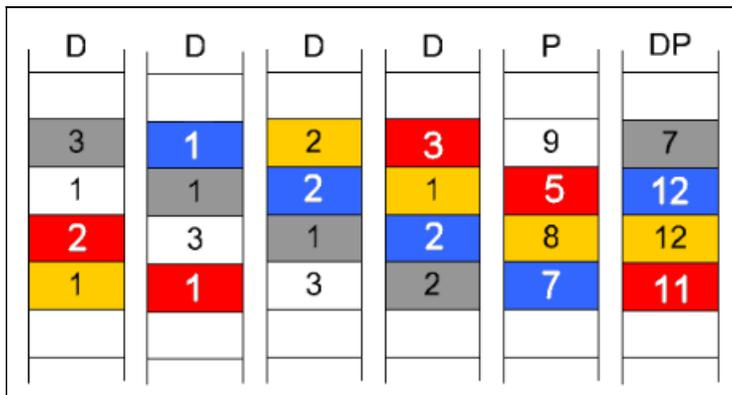
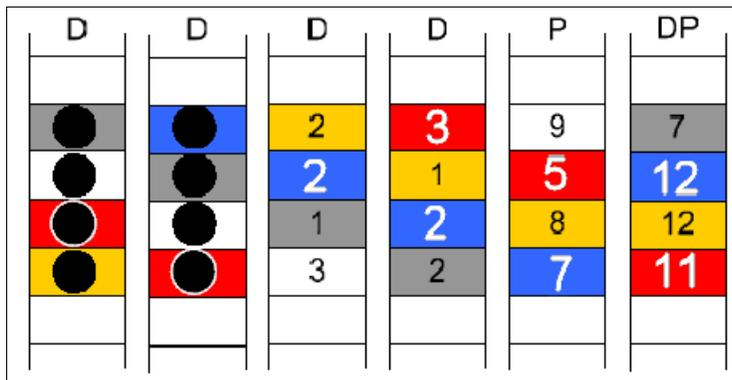
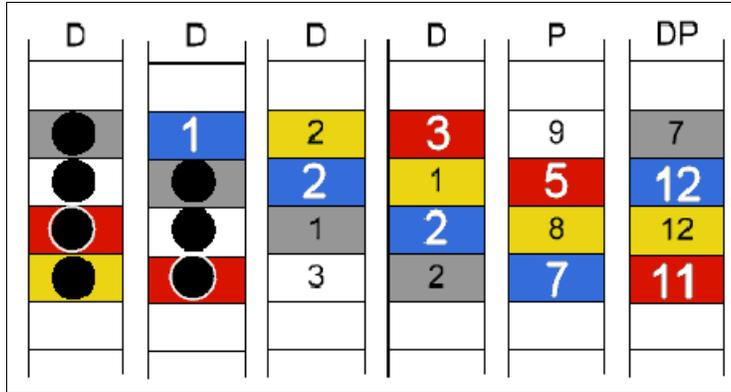

Figure 10-9 Block representation of RAID-DP corresponding with row and diagonal parity
Figure 10-10 RAID-DP simulation of double disk failure
Figure 10-11 RAID-DP reconstruction simulation diagonal blue block
In Figure 10-9, the rest of the data is added for each block and creates corresponding row and diagonal parity stripes.
One RAID-DP condition that is apparent from Figure 10-9 is that the diagonal stripes wrap at the edges of the row parity construct.
- ▶ The Figure 10-9 shows an omitted diagonal parity stripe (white blocks) that is stored on the second diagonal parity disk.
By using Figure 10-9 as the starting point, assume that the RAID group is functioning normally when a double-disk failure occurs. The failure is shown by all data in the first two columns being missing in Figure 10-10.
With this in mind, traverse the blue series diagonal blocks in Figure 10-10 on page 155. Notice that only one of the five blue series blocks are missing. With four out of five elements available, RAID-DP has all of the information that is needed to reconstruct the data in the missing blue series block. Figure 10-11 shows that this data is recovered over to an available hot spare disk.